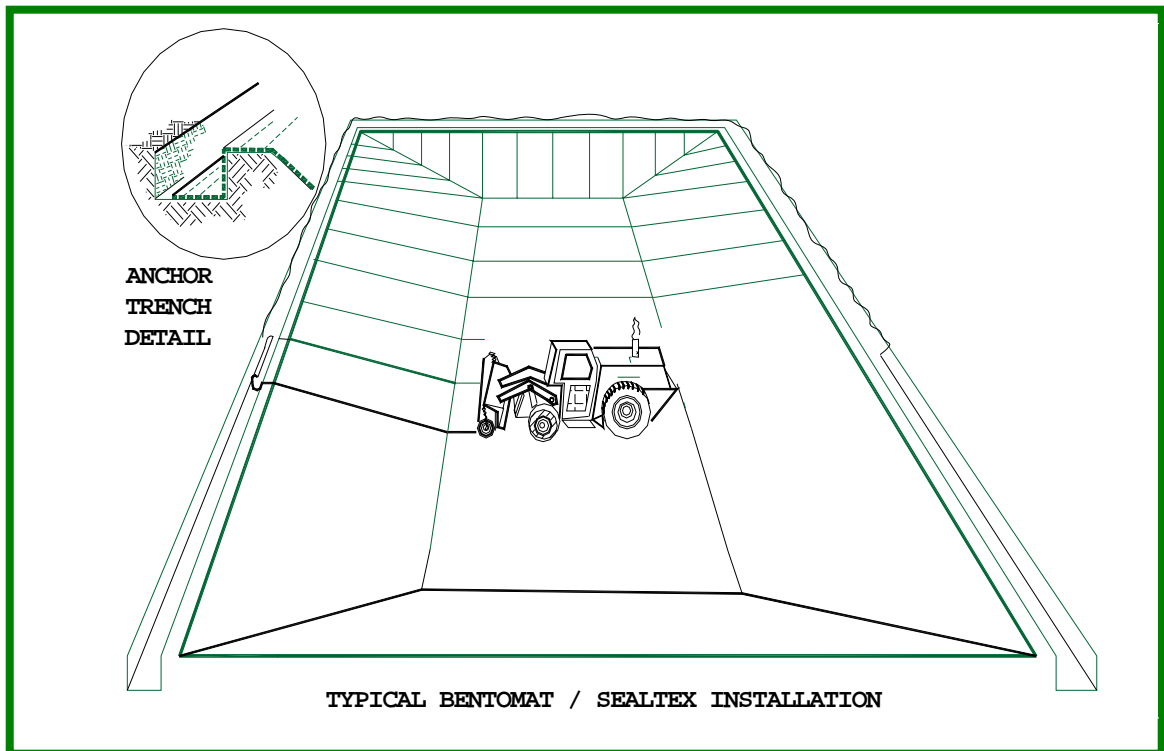

Figure 1. Typical Bentomat installation.
- 5.2 Equipment which could damage the GCL shall not be allowed to travel directly on it. Acceptable installation, therefore, may be accomplished such that the GCL is unrolled in front of the backward-moving equipment (Figure 1). If the installation equipment causes rutting of the subgrade, the subgrade must be restored to its originally accepted condition before placement continues